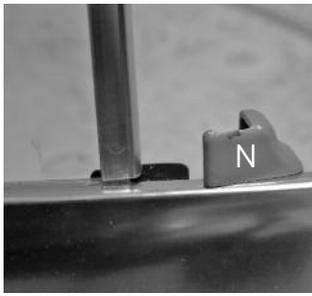

Figure a18
18. Take the correct handing Clamp Covers (N) and position them over ends of the Fixed Panels (B) **(Figure a18/18i)**.